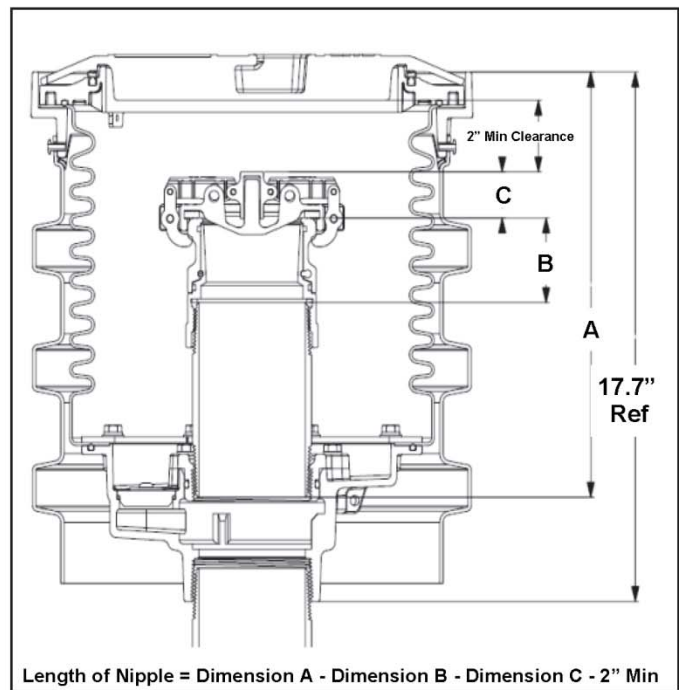

Figure 6
**NOTE: Nipple length is determined by measuring from the bottom of the threaded portion of the base to the bottom of the cover. Then subtract 2" minimum for clearance, height of adaptor and height of cap. Range of nipple lengths that can be used in all of the OPW spill containers: 4" min to 9" max. (See Figure 6)**